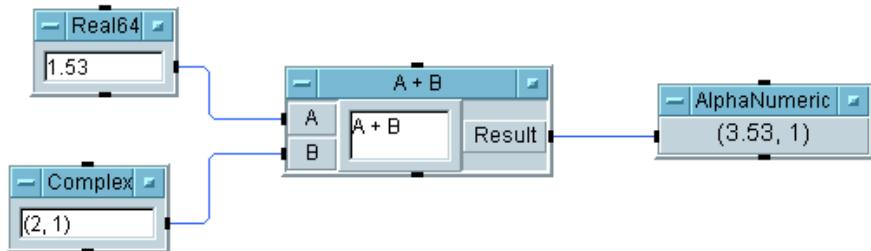

Figure 2-15. Using Data Types
5. Add an AlphaNumeric object by selecting Display \Rightarrow AlphaNumeric. Connect the objects as shown in Figure 2-15. Type in the value 1.53 in the data entry field of the Real64 Constant object and the complex value (2,1) in the Complex object. Run the program and you should get the result shown in Figure 2-15.